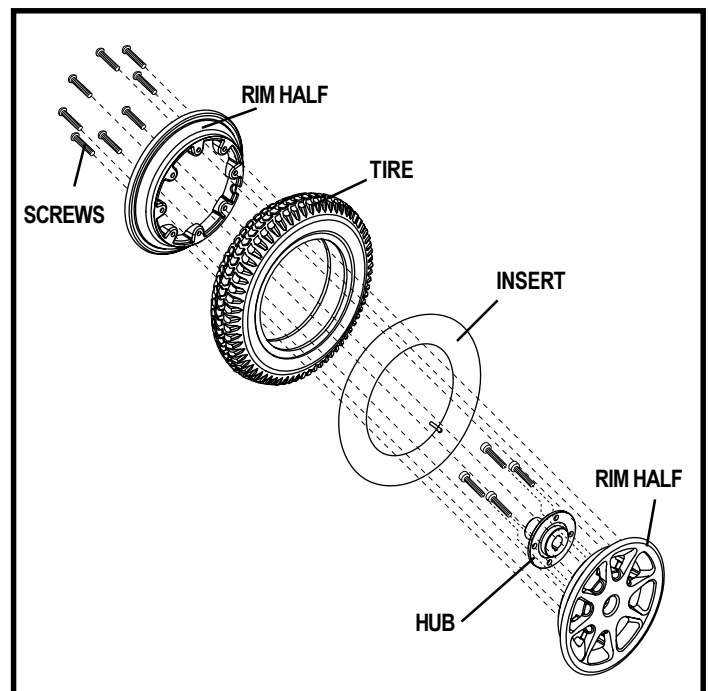

Figure 19. Quantum Jazzy 1650 Wheel Assembly
6. Remove the screws that fasten the two rim halves together. See figure 19.